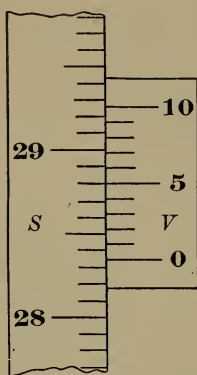

FIGURE 295.—ENLARGED
Figure 295 shows an enlarged drawing of the scale (*S*) and the vernier (*V*).
with a mark on the scale (S). In the figure it is 5 on the vernier. (It makes no difference which one on the scale.) This determines the next figure to be annexed to the scale reading, which makes the completed reading. Thus the reading in Figure 295 is 28.3 with 5 annexed, or 28.35".